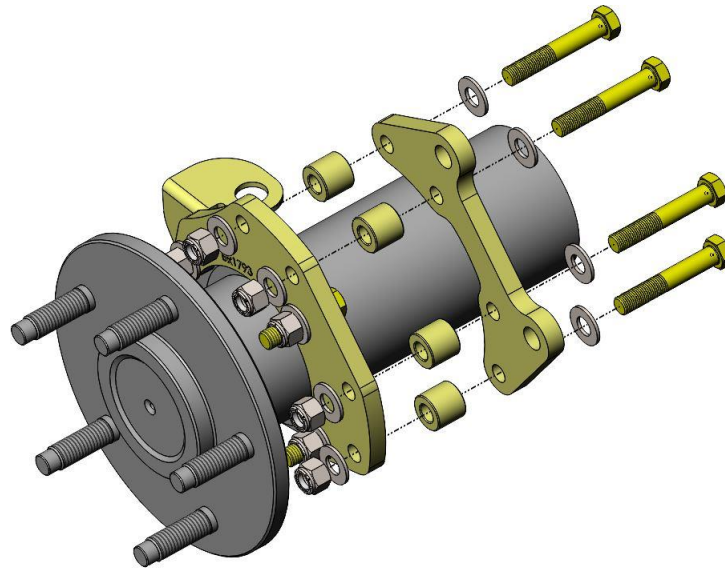

Figure 4 – Caliper Mounting Brackets Installation
8. Using the provided 3/8"-24 x 2.250" Grade 8 Hex Head Bolts, 3/8" SAE Flat Washers, 3/8"-24 Nylon Lock Nuts, and Spacer Bushings, install the Secondary Caliper Mounting bracket to the inboard side of the Primary Caliper Mounting Bracket. The Spacer Bushings install between the Primary and Secondary Brackets. Once in position, install a 3/8" SAE Flat Washers and 3/8"-24 Nyloc Nuts and torque to 40 lb/ft. Figure 4 below shows the bracket installation.